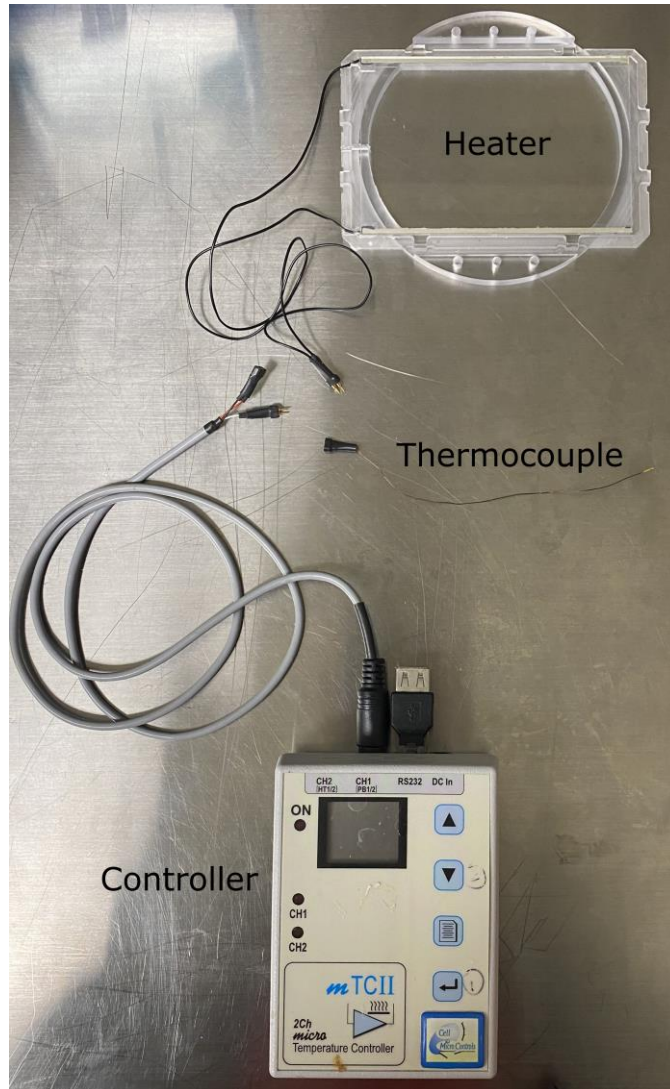

Fig. 6 Heater and controller with gray cable.
- After mounting the heater and thermocouple (see **V2 Chip loading**) connect the heater and thermocouple to the proprietary controller cable (a single gray cable shown in **Fig. 6**). Connect the gray cable to one of controller channels (there are two). Also connect the controller to a power supply (this will automatically turn on the controller).